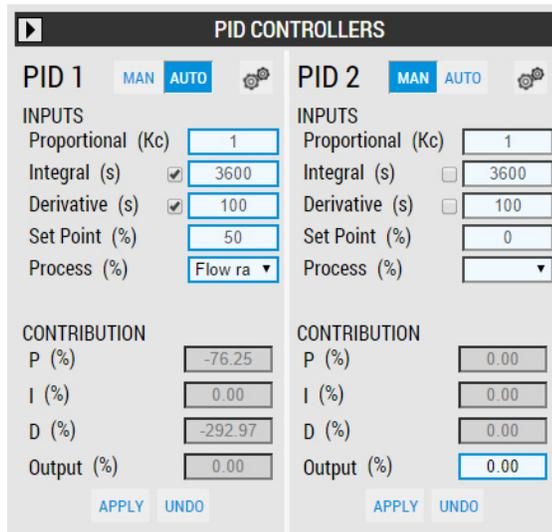

Figure 16. PID Controllers section.
There are two configurable controllers (PID1 and PID2), at the right, in the PID Controllers section (Figure 16). For each controller, you can set the tuning constants, the set point, and select a controlled variable (Process %).
Figure 16 shows the PID Controllers section. At the top, you can set the controller gain, integral time, and derivative time. Those parameters correspond to  $K_c$ ,  $T_i$ , and  $T_d$  in Equation (1). Below those parameters, you can adjust the set point and select the controlled variable from the drop-down list. The controller gain, set point, and controlled variable are mandatory to achieve at least proportional control. Integral action and derivative action are not enabled by default. To enable them, check the box beside the name of the parameter. Each time you modify a parameter you must click the *Apply* button to apply changes; until you click this button all modified parameters are shown with a yellow background.